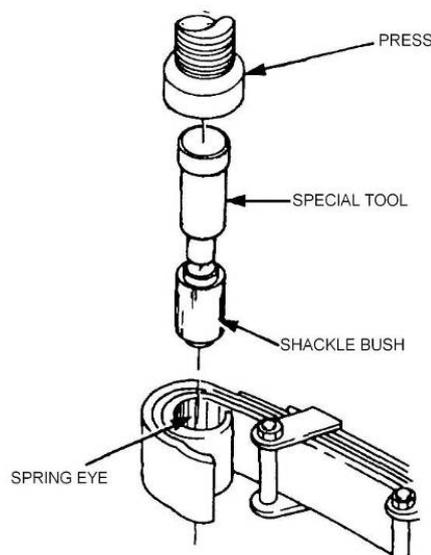

Figure 157 Replacement of the Shackle Bush
- c. Position the shackle bush remover adaptor (Table 3, Serial 16) on the shackle bush (Figure 157). Ensure that the tool is correctly aligned and press the shackle bush from the spring eye.